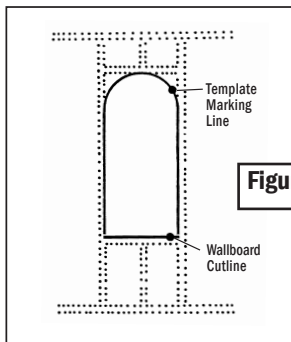

Figure 2
- Mark wallboard along line just above bottom horizontal brace between studs. (*figure 2*)
- Cut bottom as marked in step 2. (*figure 2*)